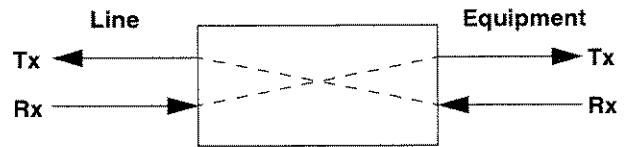

Figure 1-1 Drop and Insert Mode (D&I) Paths
- **Drop and Insert (D&I) Mode** — Enables the T-BERD 950 to access specific channels from the T1 line while leaving the other channels unaffected. The Transmit and Receive side of the T1 path are paired. The input signal is received, Bipolar Violation Breakouts (BPVs) are corrected, the signal is regenerated, and new data can be inserted onto specific bandwidths before the signal is sent to the output. No data is inserted on the transmit path unless the associated receiver has frame synchronization. The D&I mode signal paths are illustrated in Figure 1-1.